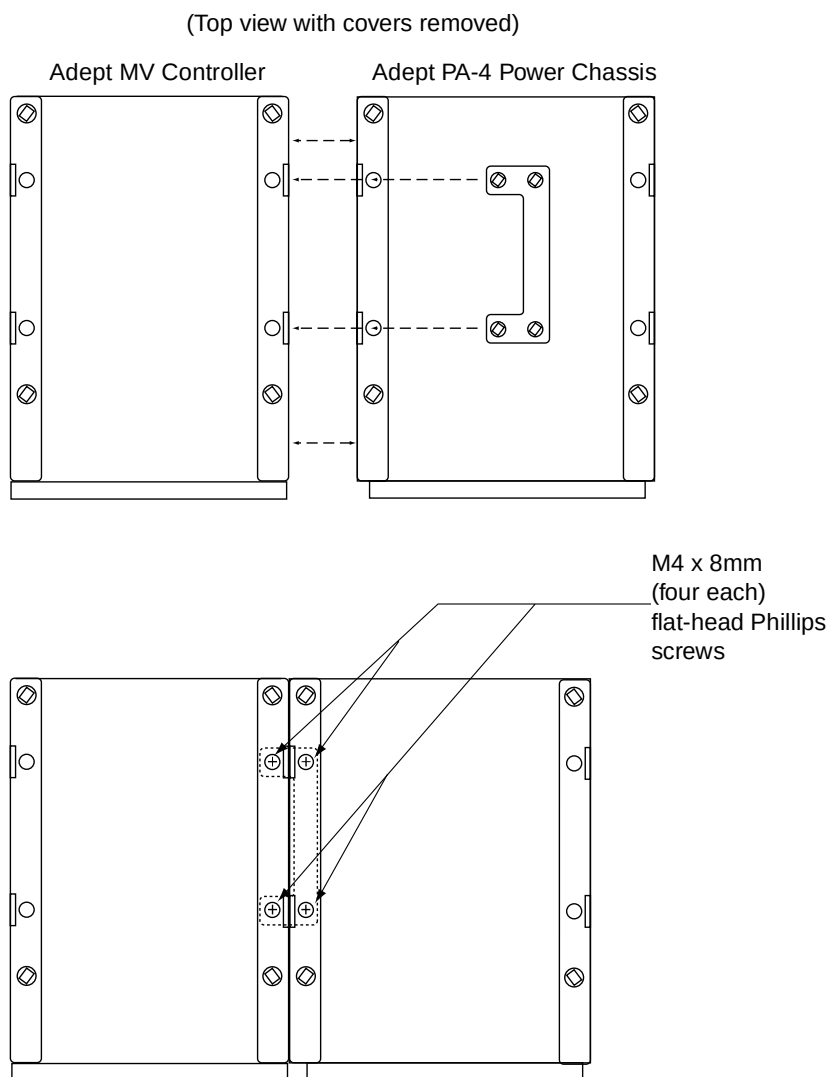

**Figure 4-4. Joining the Power Chassis and Controller at the Top**
1. Turn off power to each unit and disconnect the power cord. Place the two units next to each other. Remove the top cover from both (see Figure 4-4).